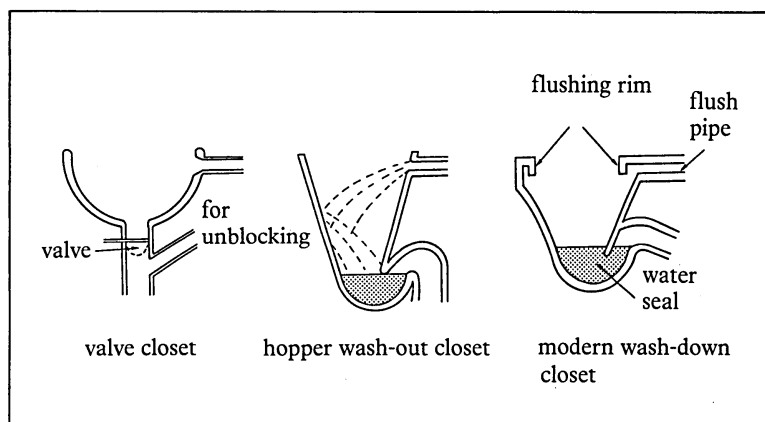

Figure 13 Types of toilet pan
- 6 How is the rim on a modern pan an improvement on the older wash-out design (see Figure 13)?